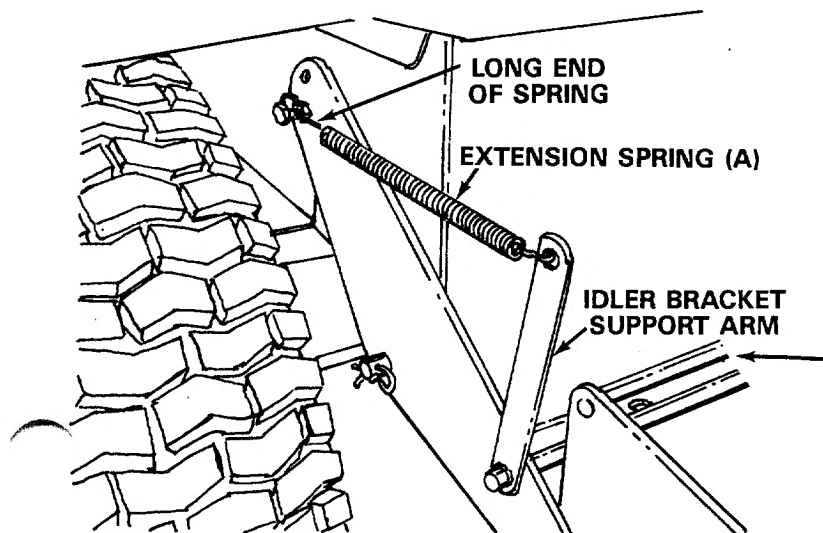

FIGURE 13
26. Hook the short end of extension spring (A) to the idler bracket support arm on the left side of unit. Hook the longer end of spring to the hex bolt on support pivot bracket which was assembled in step 7. See figure 13.